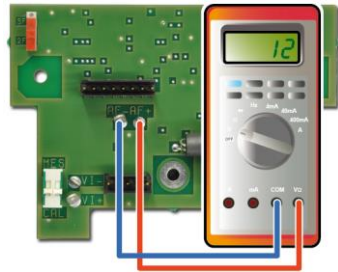

Figure 22
- Read the mV value on the voltmeter (Figure 22), with the full scale at 1600 mV. Calculate the value to be read as a function of your test gas.